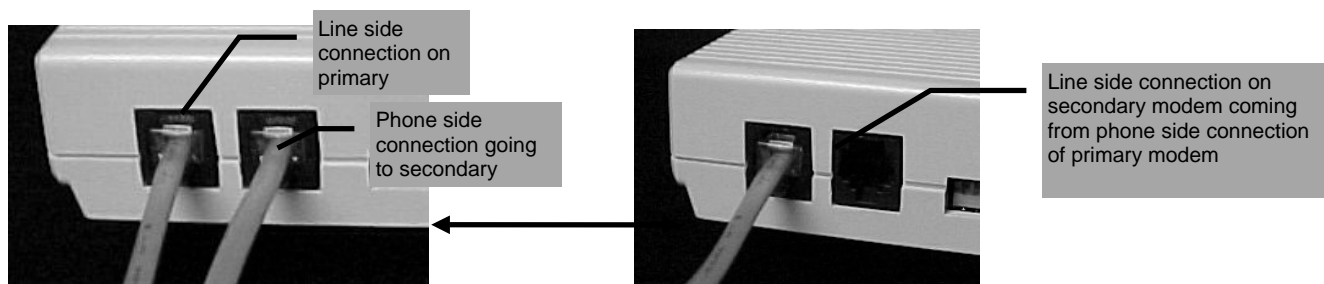

Figure 6
- If a second line is not available (**least efficient**) you should have an additional phone line and connect one end of it to the phone side of the primary modem and the other end into the line side of the secondary modem. (Fig. 6)